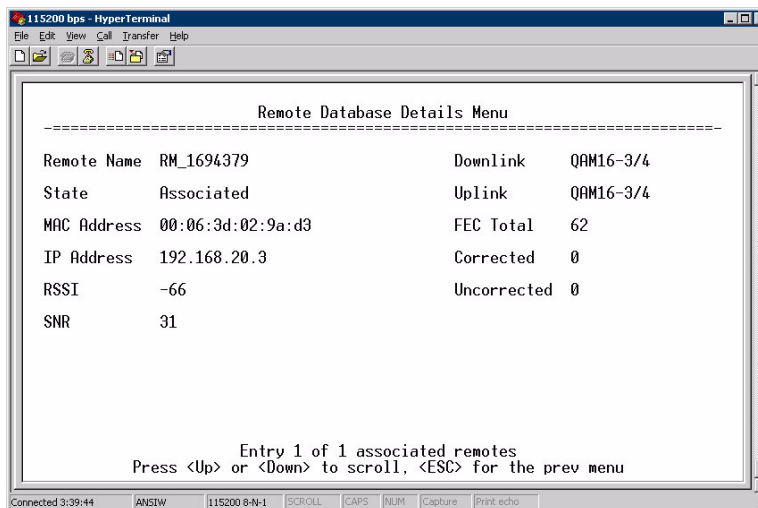

Figure 3-99. Radio Details Menu
- **Radio Details**—This selection presents a screen (Figure 3-99) showing key operating details of the transceiver.